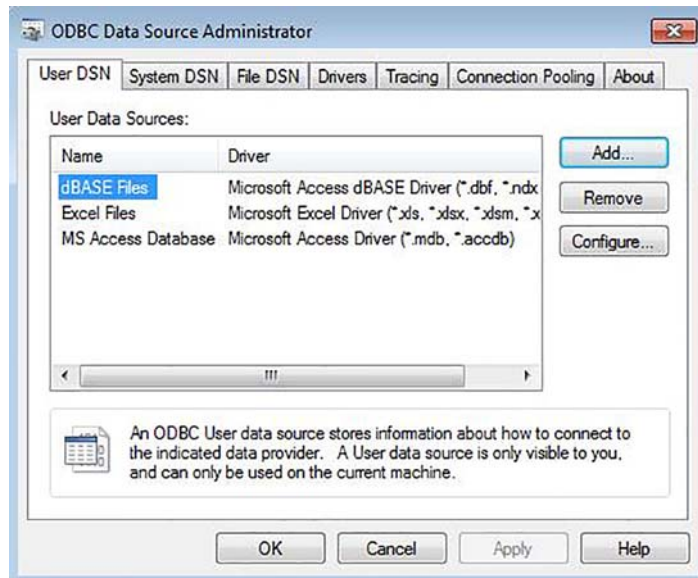

Figure 5-2. ODBC Data Screen
- A dialog similar to Figure 5-2 should display.